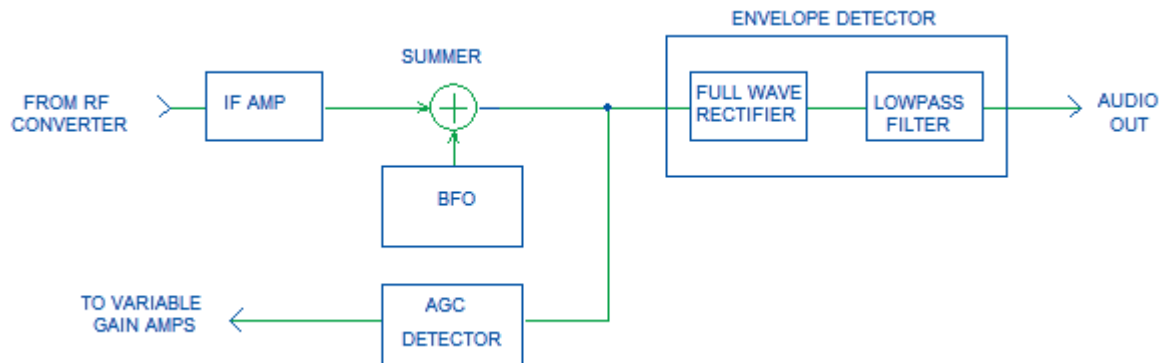

Figure 1 – AM Receiver with Envelope Detector
Most of us are aware that the introduction of the “Product Detector” resulted in greatly improved audio when receiving SSB or CW signals, as opposed to the audio produced by the standard “Envelope Detector” that was used for many years in receivers designed to receive AM signals. Why is this? First, let’s look at the operation of the Envelope Detector (ED). Figure 1 is the block diagram of the final IF and detection circuitry of the final stages of a typical vintage AM receiver.